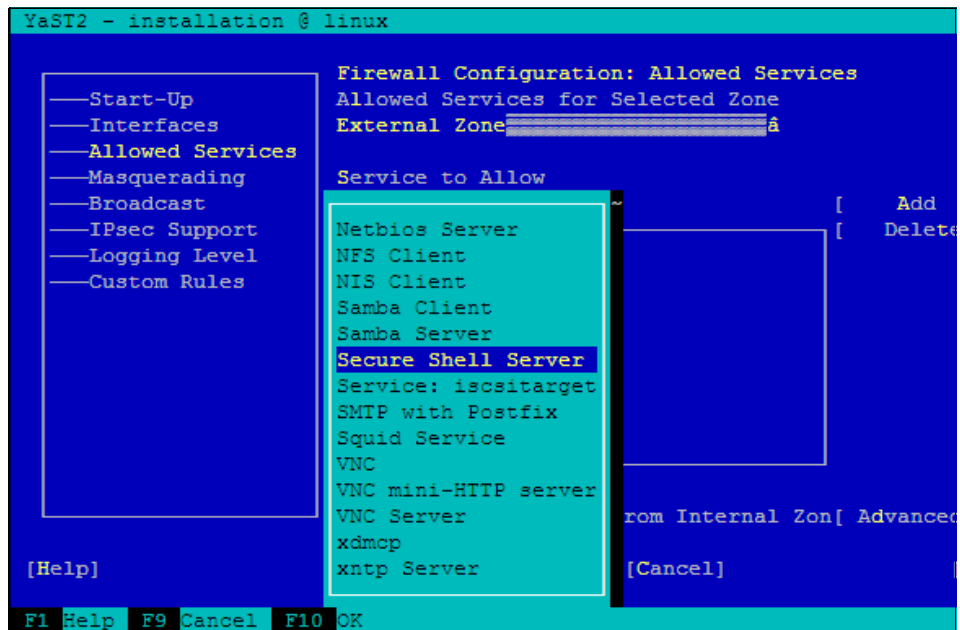

Figure 9-30 Services to allow list and selecting SSH service
- c. Find and highlight **SSH** in the new window, as shown in Figure 9-30 on page 389. Finally, press Enter to confirm.